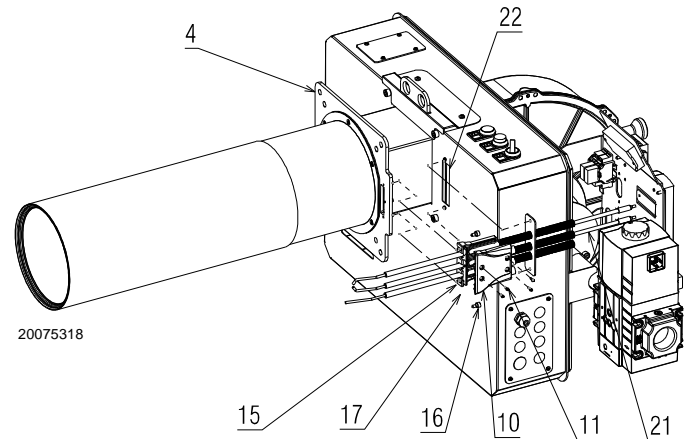
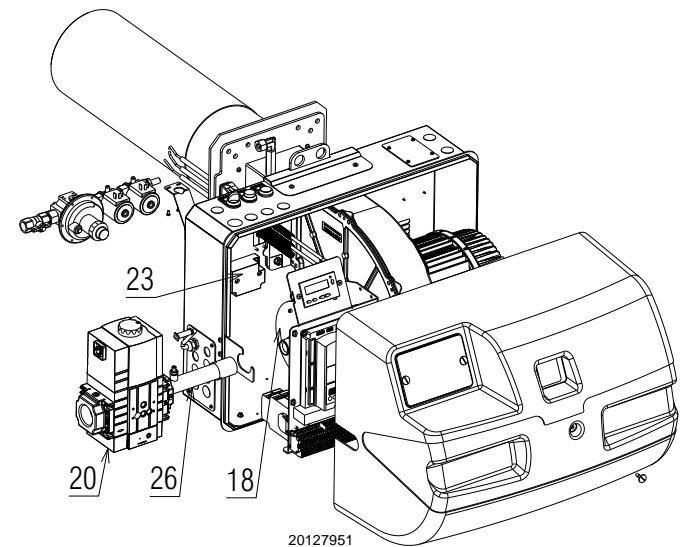

Fig. 17
Fig. 18
For the installation of the electrodes proceed as follows (Fig. 17 and Fig. 18):
- Fix the flange 4)(Fig. 17) to the boiler plate and tighten the nuts 4). During this operation, take care not to touch the electrode unit.